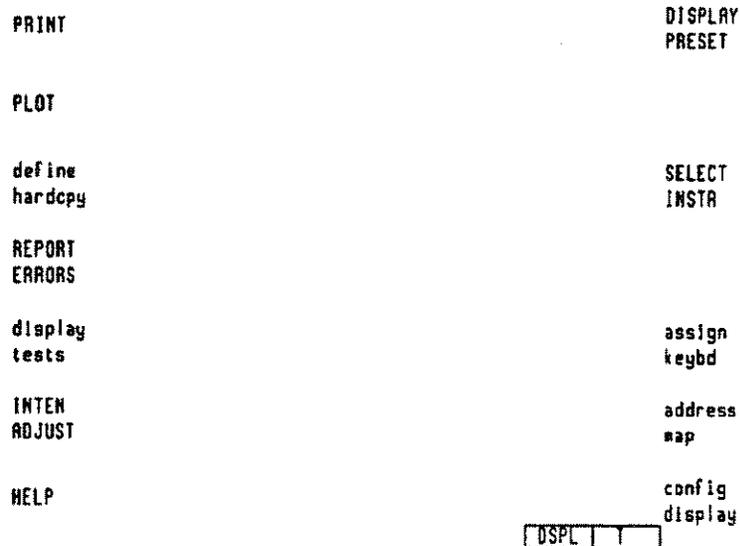

Figure 2-3.
6. Press **DISPLAY**. This should result in a screen similar to Figure 2-3.